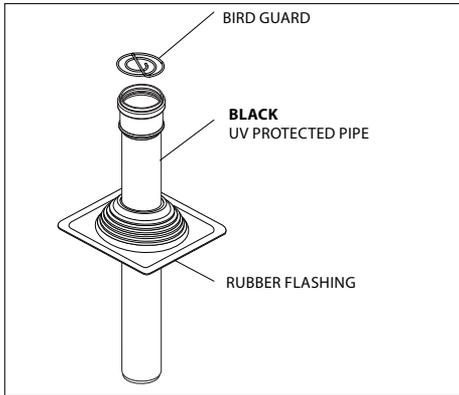

Figure 19- Vertical Pipe Termination
Vertical single pipe (Fig.19)
2. Attach flashing to roof. **(Fig.19)**